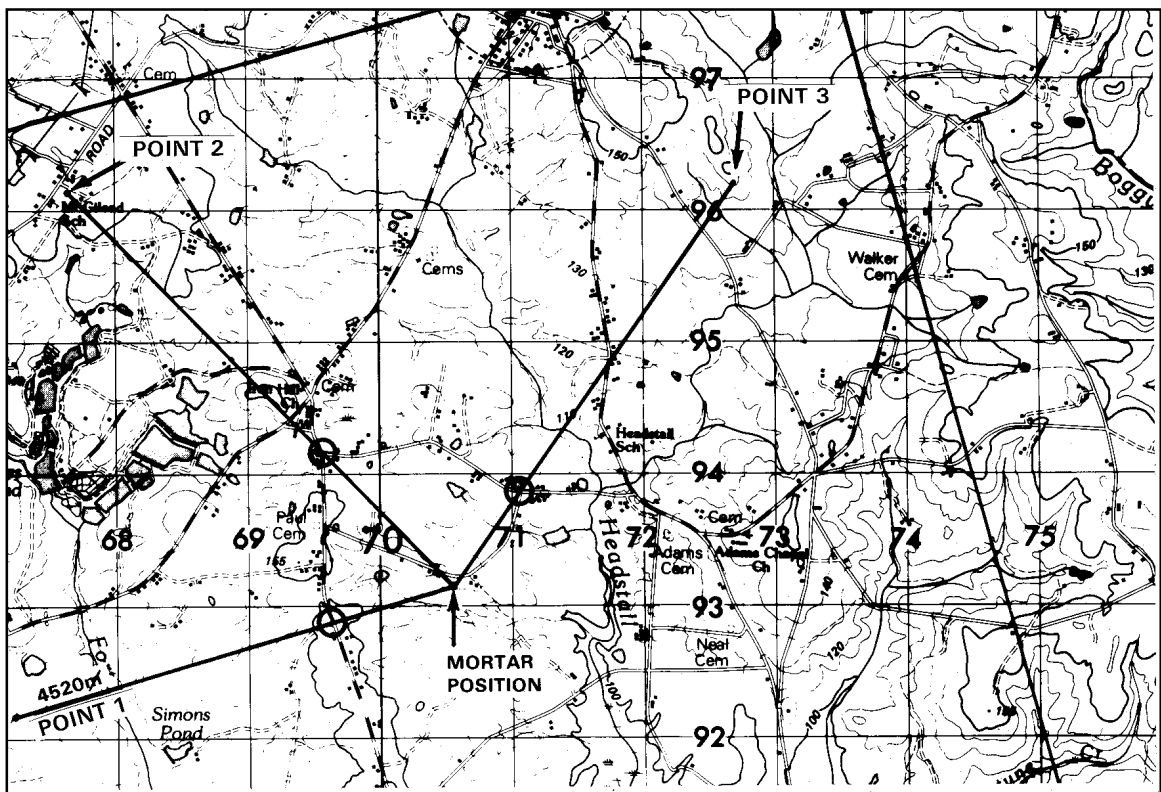

Figure C-5. Positioning of tracing paper.
f. Place the tracing paper over the map of the area and slide it around until it is positioned so that the three lines pass through their respective distant points (Figure C-5). The dot on the tracing paper represents the location of the aiming circle (mortar position) on the map.